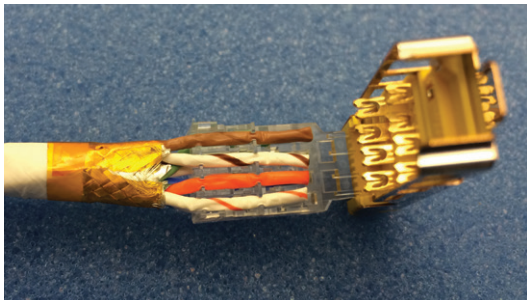

Figure 12: Wires inserted in position in top row
10. Insert the top row of wires into the connector according to the diagram (Figure 12).